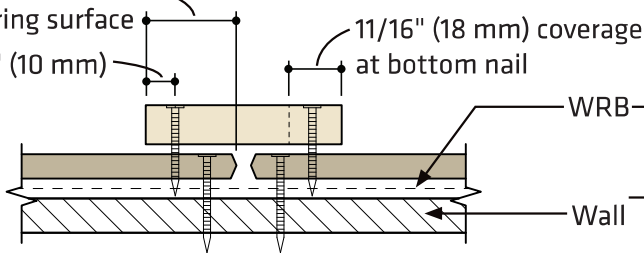

Figure 4a
- The edges of Lap Siding installed Vertically must be spaced a minimum of 3/16 inch (5 mm) from each other. *(See Figure 4a, 4b & 4c)*